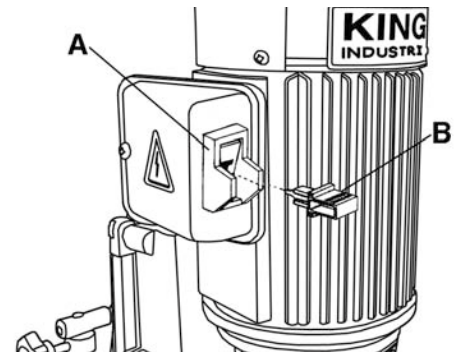

Figure 3
The ON-OFF switch (A) Fig.3 is located on the motor and operating positions are clearly marked. Push switch up to turn the machine ON and down to turn it OFF. The switch comes with a removable safety key (B) that allows the switch to be locked in the OFF position. To activate the locking feature, push switch to the OFF position and pull the safety key out of the switch as shown. To reactivate the switch, simply reposition the safety key in the switch.